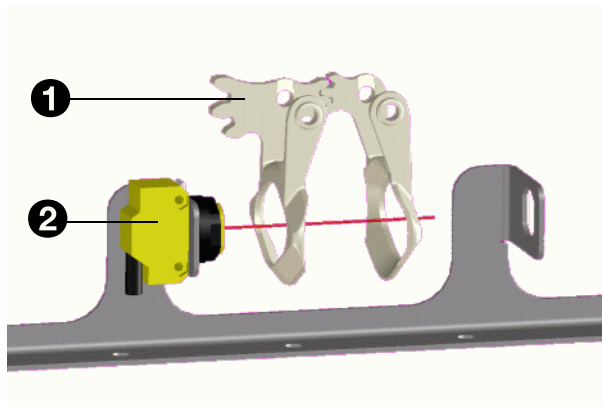

Fig. 143 - Adjustment of "begin check"
3. Mount the Begin check sensor (2) so that the beam of the sensor shines on the middle of a carrier (1). See fig. 143
4. Press switch S2 (1) on the Main timing circuit board MPS97 until LED D111 (2) goes out